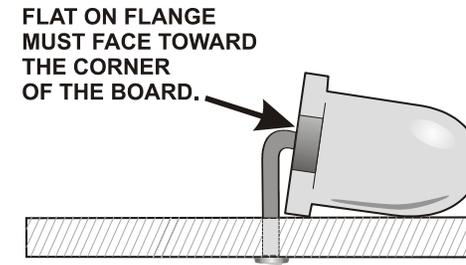

Figure 9. Installing LED D1.
- _ Bend the leads so that when they are inserted through the solder pads, D1 rests against the board as shown in **Figure 9**. Note: This LED is provided to illuminate your note pad or log while operating in the dark. The slight downward angle will help direct the light down onto the table top.